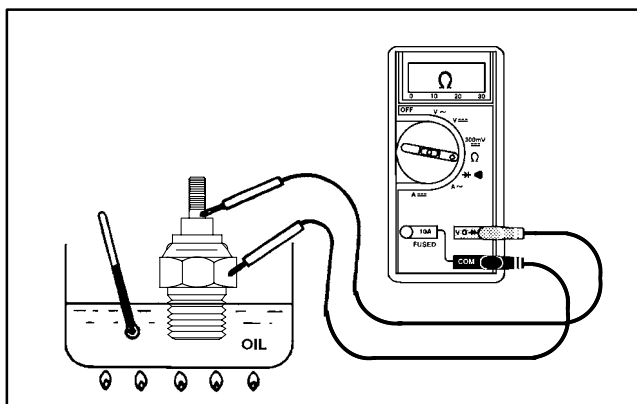

Figure 57
2. Suspend sender in a container of oil with a thermometer and slowly heat the oil (Fig. 57).